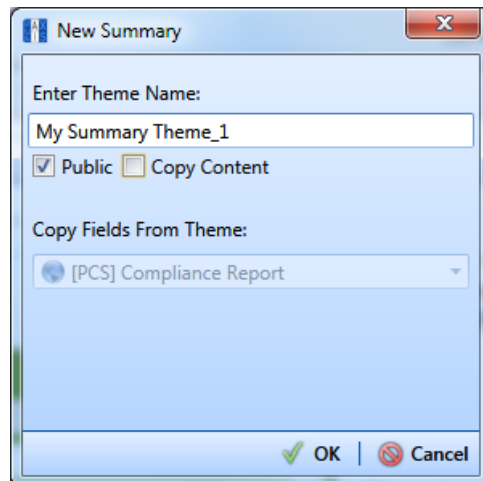

Figure 15-34. New Summary
- 5 Click  **Add** to open the *New Summary* dialog box (Figure 15-34).